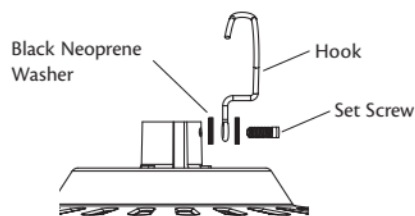

Figure 14 - Assembling the set screw for low profile assembly
- Put the set screw, previously removed, through the two black neoprene washers and the hook as shown in Figure 14. Hook must be installed in same orientation as shown in Figure 14.
- Reassemble the set screw to the adapter as shown in Figure 14.